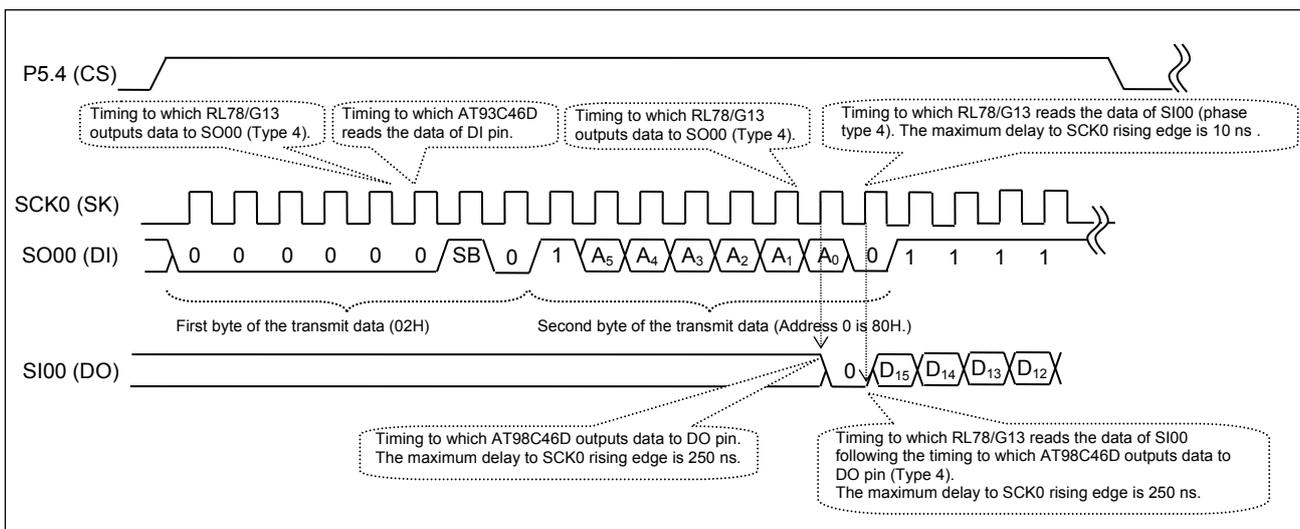

Figure 5.2 The Timing of READ Command Execution
- (5) An READ command (data reading) is executed to device on the opposite side (AT93C46D). It checks that the data from address 0 to address 63 was read in order, and the same contents as the written-in data can be read on the screen of a debugger (CS+). Since the read-out range is from address 0 to address 63 of device on the opposite side (AT93C46D), a READ command is executed 64 times. エラー! 参照元が見つかりません。 shows the timing of READ command execution.
The data to be written is 2 bytes for one address. A total of 26 bits (a start bit (1), OpC (2), an address (6), dummy bit [value 0] (1) for timing adjustment, and dummy bit [value FFFFH] (16) for urging the clock supply under data reading) are right-aligned (LSB) in “unsigned char” type 4 bytes and transmitted. In other words, the 1st byte is set to 00000010B, the 2nd byte is set to 1A5A4A3A2A1A00B, the 3rd byte is set to FFH, the 4th byte is set to FFH, and they are transmitted by MSB first. Although device on the opposite side (AT93C46D) reads the data of DI pin in the rising edge of a clock timing, the data output to DO pin also synchronizes with the timing of a clock standup. Therefore, under ordinary circumstances, the right method will change a phase into Type 2 from Type 4 from the 3rd byte of command, but phase type 4 transmission and reception are continued in this application on the grounds that the output delay time of AT93C46D is 250 ns at the maximum, and it is a large enough compared with the hold time of CSI00. However, as this is a strictly experimental trial, in a customer's development, please confirm the datasheet of communication device on the opposite side and design according to the specification. Figure 5.2 shows the timing of READ command execution.